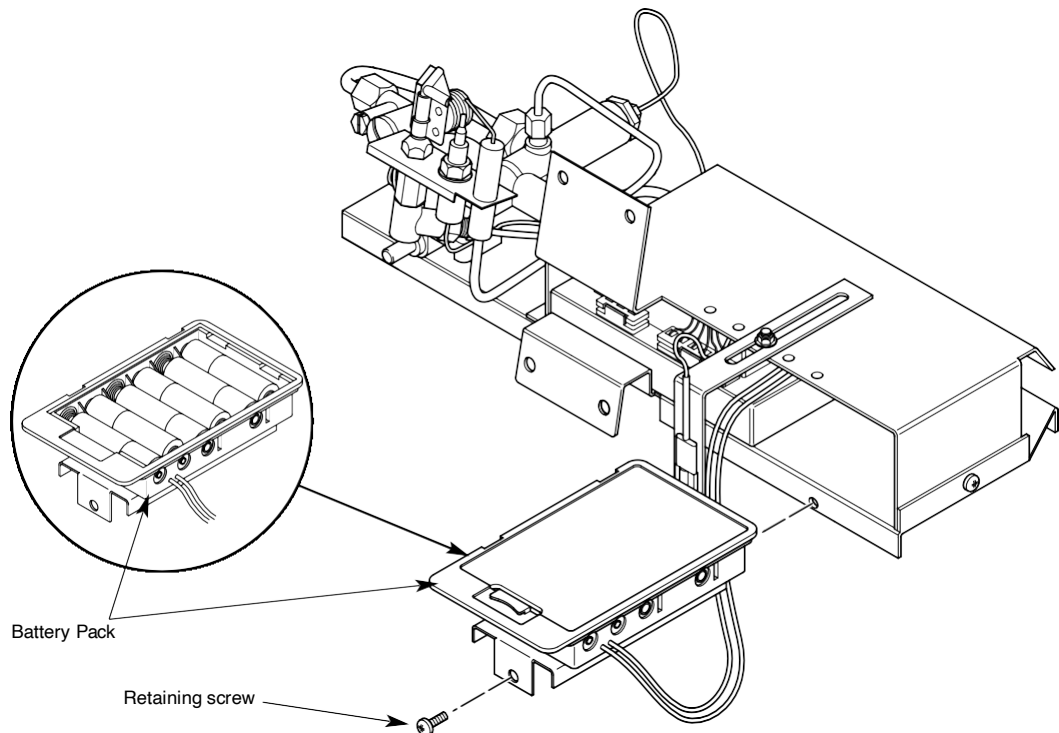

Fig. 15
Note: When the batteries are becoming discharged, the fire will emit a continuous beeping sound. The battery pack is held in place with a single screw, remove this screw and the pack can slide out. Unclip the cover and replace the batteries with good quality alkaline or lithium - 6 x 1.5V AA (Fig.15 - Page 16).
4. Changing the batteries - When the batteries are becoming discharged, the fire will emit a continuous beeping sound. The battery pack is held in place with a single screw, remove this screw and the pack can slide out. Unclip the cover and replace the batteries with good quality alkaline or lithium - 6 x 1.5V AA (Fig. 15).